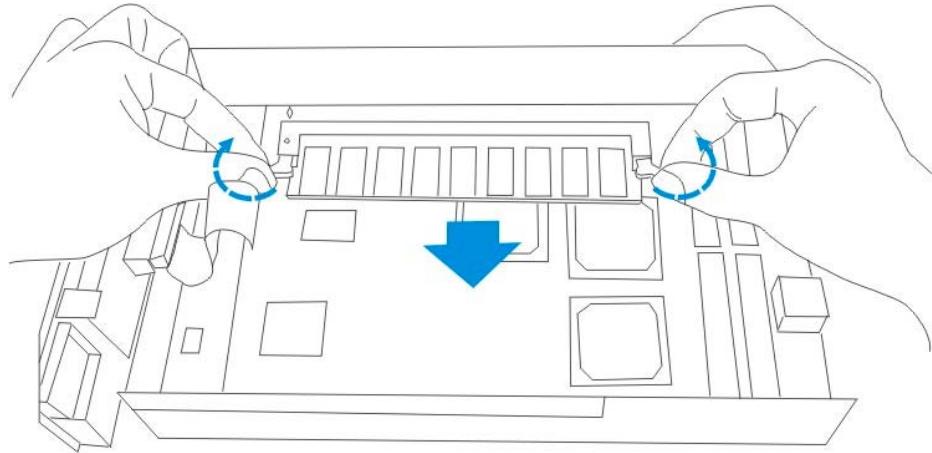

Figure 5-1: Remove the DIMM Module
Step 5. Insert the new DIMM module. To install the replacement DIMM module, align it with the DIMM slot. Next, gently push the new module into the DIMM socket. The white clips on either side of the DIMM socket will automatically close and lock the new DIMM module into place. (See *Figure 5-1*)